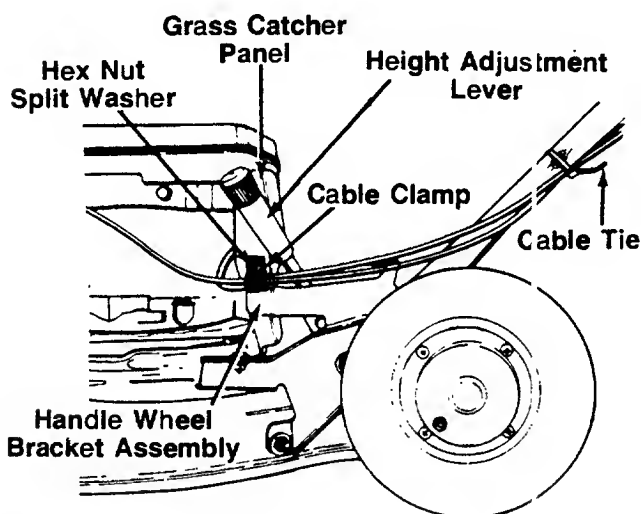

FIGURE 10.
2. Remove the hex nut and split washer from the side of the left handle wheel bracket assembly as shown in figure 10. Attach the cable clamp to the left hand wheel bracket assembly as shown. Secure with hardware just removed.